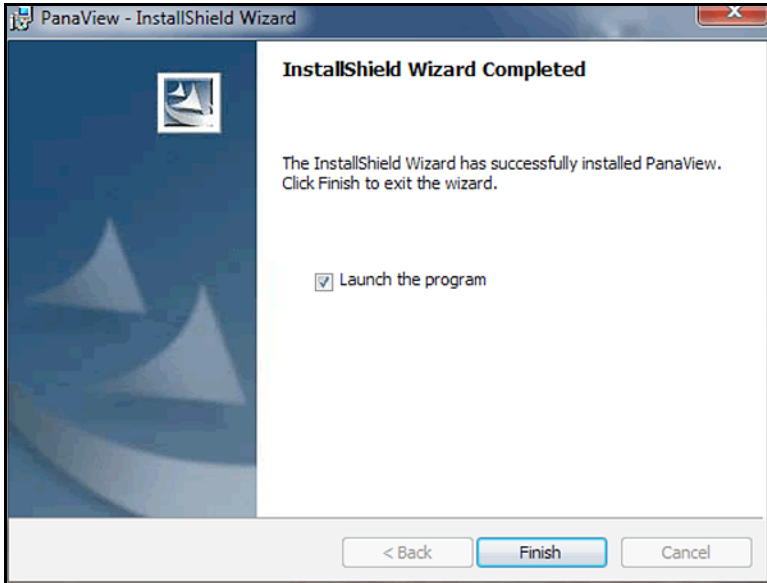

Figure 9: InstallShield Wizard Completed Screen
8. After all of the PanaView files have been copied to your hard drive, the screen shown in *Figure 9* below opens. Click on the [Finish] button to close the InstallShield Wizard.